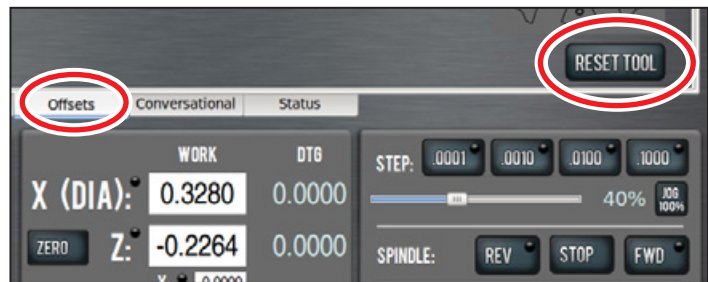
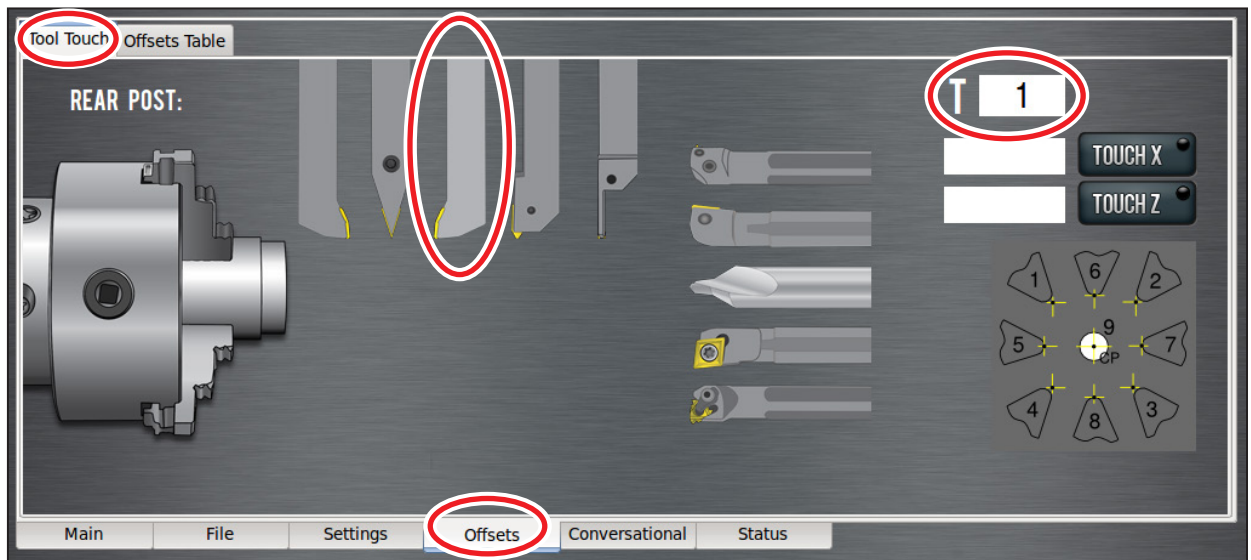

Figure 4.8
Figure 4.13
Ensure there are no tool geometry offsets currently applied in PathPilot by clicking *Reset Tool* on the *Offsets* screen (see **Figure 4.8**), which clears the geometry offsets for the currently loaded tool. If the *Offsets* screen displays a selection of tools (see **Figure 4.9**), this indicates no tool offsets have been applied.
2. Select tool 1 in PathPilot interface – either click *Tool Touch* tab on the *Offsets* screen and type 1 in the tool T DRO (see **Figure 4.13**), or type T01 in the MDI line; click *Enter*.
3. On the *Tool Touch* tab on the *Offsets* screen, select right-handed turning tool (see **Figure 4.13**).
NOTE: If the wrong tool type is selected, click *Reset Tool* to reset the tool type (see **Figure 4.8**) and return to the tool selection screen (see **Figure 4.13**).